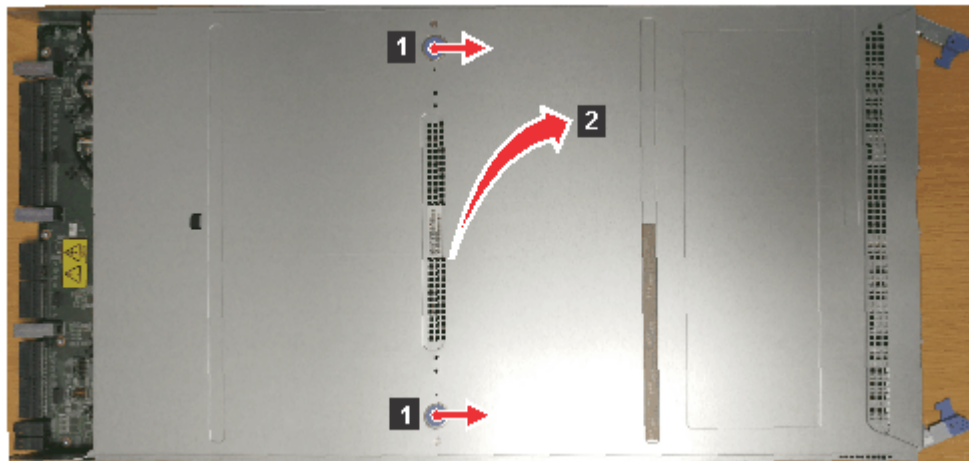

Figure 75. Removing the node canister cover
3. Open the cover of the node canister by depressing the recessed, blue touch points on the lid (1) and sliding the lid away from you (2), as shown in Figure 75 on page 120.